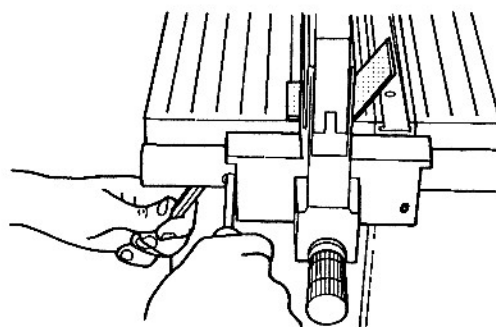

Fig. C-2
4. Use a 7/16" wrench and medium Phillips screwdriver to tighten the screw and hex nut attaching the fence tube to the left front side of the table, as illustrated in Fig. C-2.